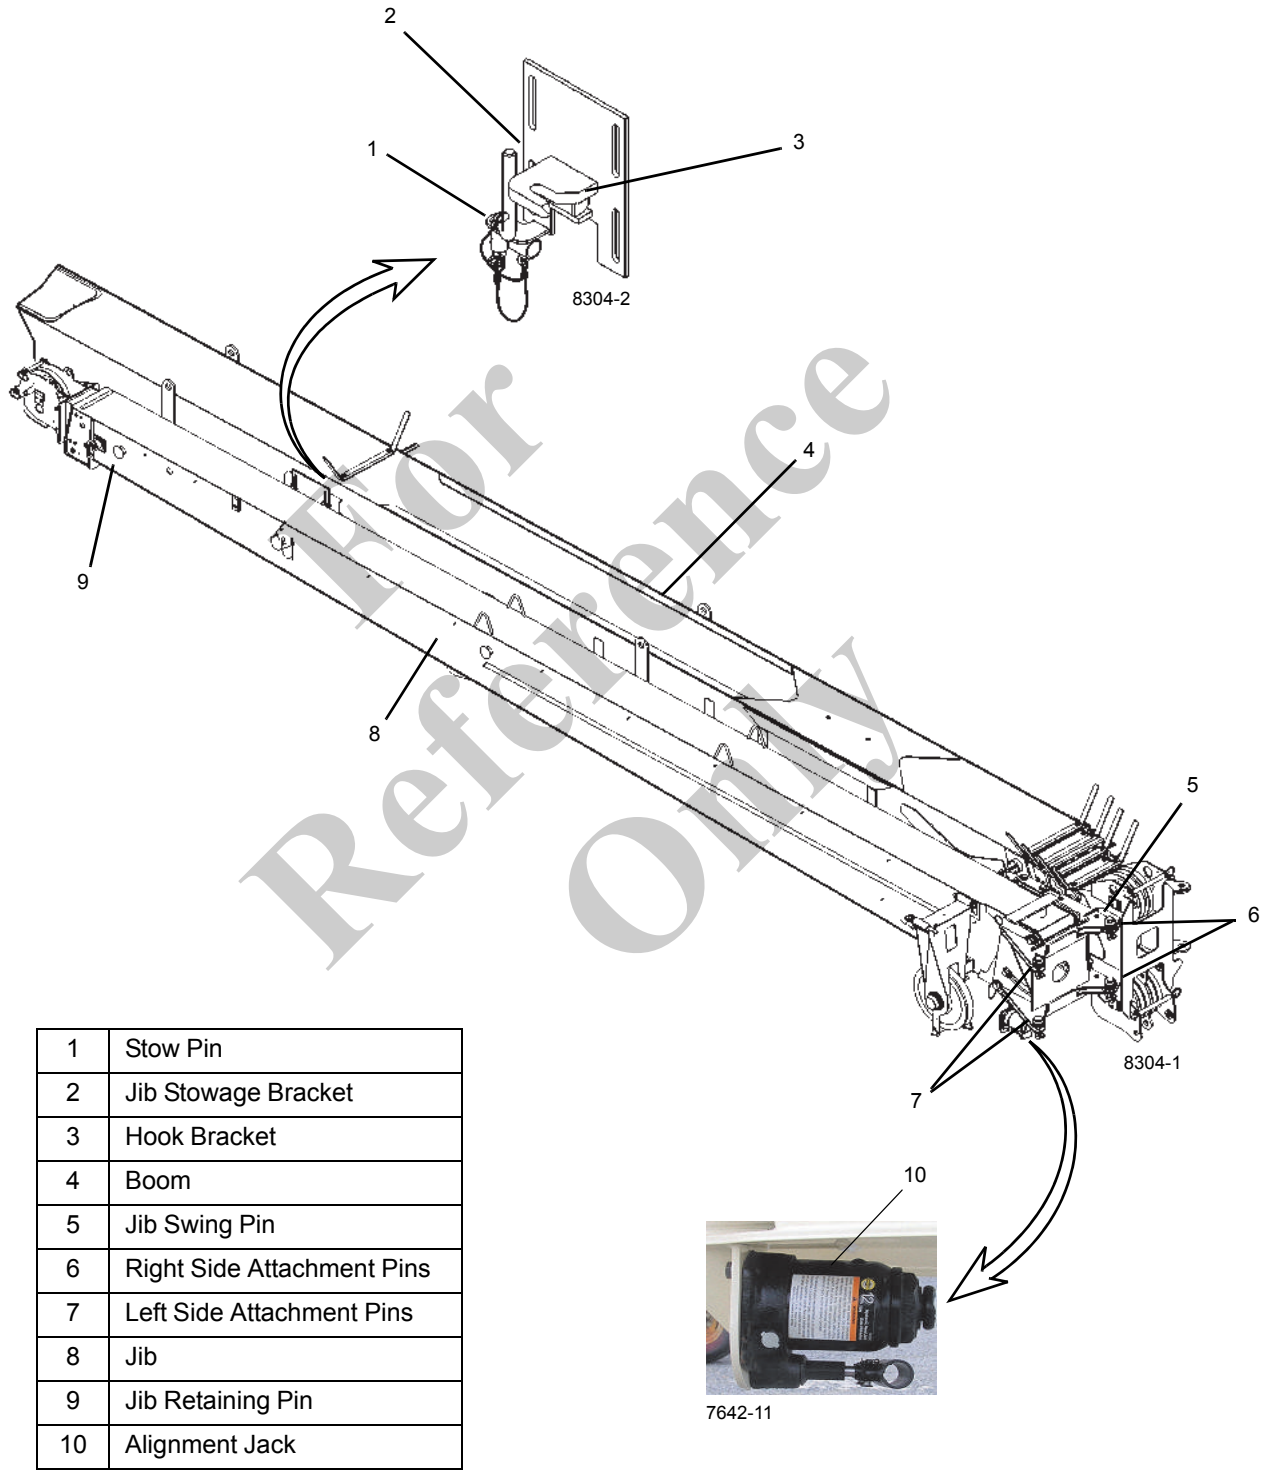
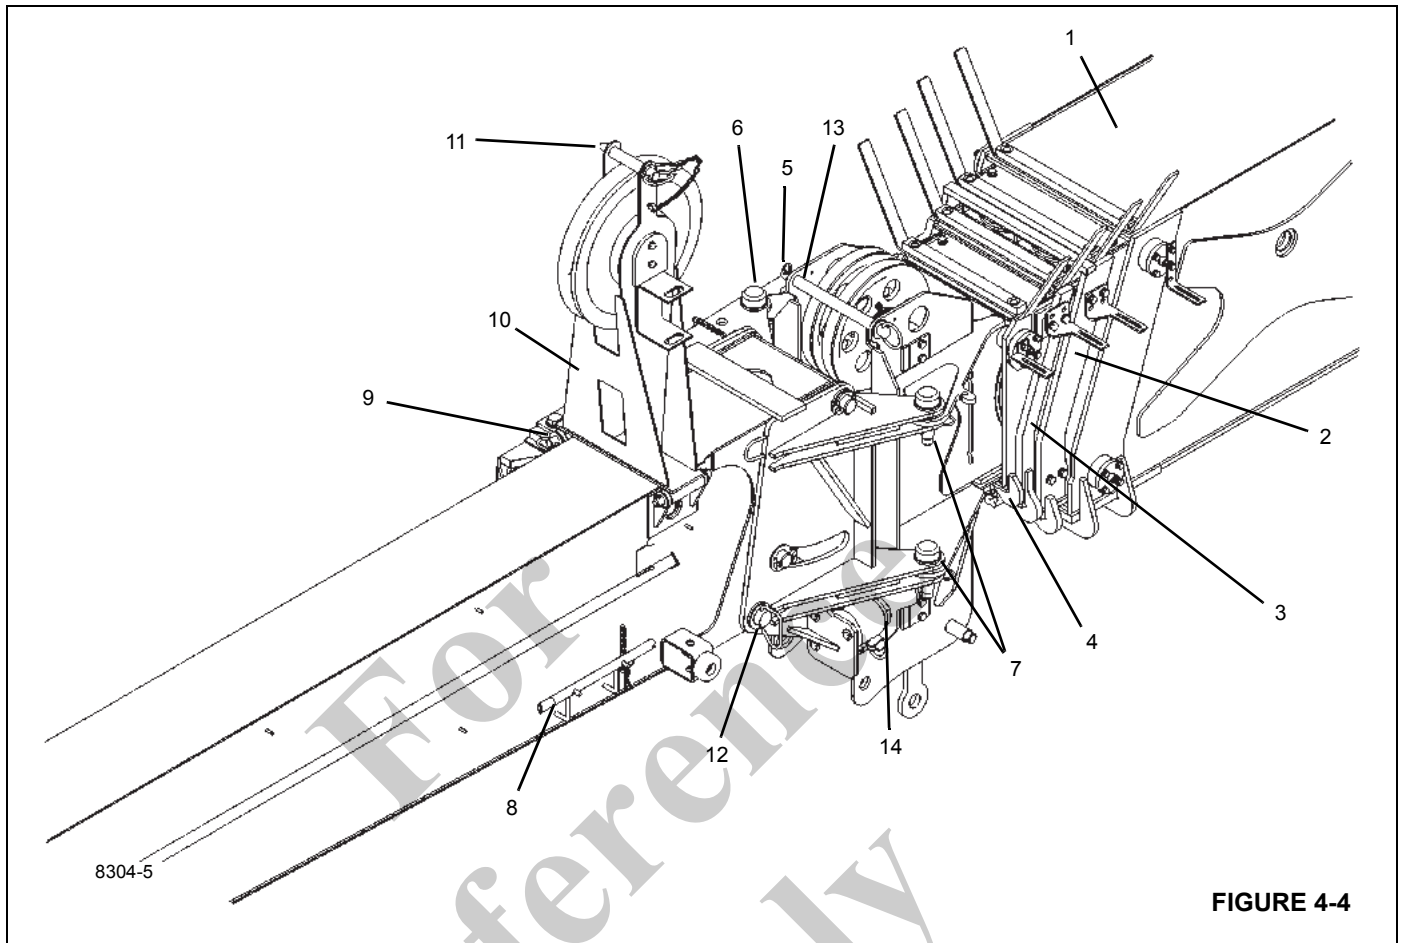

FIGURE 4-3
FIGURE 4-4
6. Ensure jib is stowed correctly (Figure 4-3):
- a. Removal of right side attachment pins (6), without proper installation of stow pin (1) and Jib swing pin (5), may allow jib to fall off.
- b. Extending boom with the jib stowed and failure to remove right side attachment pins (6), will damage crane upon extension.
7. Only swing jib into working or stowed position when boom is horizontal, stow pins (1, Figure 4-3) and jib swing pin (5) are removed and right side attachment pins (6) are in place. The jib could swing uncontrollably if boom is not horizontal.
13. Do not extend/retract boom unless boom is horizontal when stow pin (1, Figure 4-3) and jib swing pin (5) are removed during stowing or unstowing procedures.
1. Jib retaining pin (9, Figure 4-3) must always be installed when operating.
3. Extendable section may slide out of 1st jib when jib retaining pin (9, Figure 4-3) is removed. Keep personnel clear of area.
2. Using lift function, lower boom so that attachment pins (6 and 7, Figure 4-3) are easily accessible from the ground.
4. Install right side attachment pins (6, Figure 4-3) in upper and lower jib lugs, secure with retainer spring clips. These pins are used as a pivot point to swing jib into the deployed position.
5. Locate the stowed position of attachment pins (7, Figure 4-3). If in jib attachment holes or boom sheave case jib holes, remove pins from storage location.
6. Remove jib swing pin (5, Figure 4-3) from top ear of jib.
7. Remove stow pin (1, Figure 4-3) and stow in hook bracket (3), secure with spring clip.
10. Using telescope function, slowly extend boom approximately 30 cm (12 in). This procedure will pull the jib out of the hook bracket (3, Figure 4-3).
12. Install upper left attachment pin (7, Figure 4-3) and spring clip. A slight mallet strike may be necessary to install pins. Always use proper eye protection during this step.
13. Use the alignment jack (10, Figure 4-3) to align lower left side attachment pin (7, Figure 4-3).
- a. Remove the jack handle (8, Figure 4-4) from the boom stowage bracket and check that the jack release valve is closed.
- b. Extend the alignment jack (10, Figure 4-3) so that the lower left pin holes (7, Figure 4-3) are aligned.
- c. Install the lower left side attachment pin (7, Figure 4-3) and spring clip.
- d. Open the jack release valve and retract the jack (10, Figure 4-3).
18. Install jib swing pin (5, Figure 4-3) and spring clip into jib lugs.
19. For manually extendable jib, pull jib retaining pin (9, Figure 4-3), and extend second section out by pulling on sheave case. The second section jib, as it extends, will hit a mechanical stop that allows for jib retaining pin (9, Figure 4-3) installation. Install pin (9) and spring clip.
- Side stow bracket completely engaged into stow hook with stow pin (1, Figure 4-3) properly in place.
- Both pins (6, Figure 4-3) in upper and lower jib holes properly in place through mating holes on boom tip.
1. Using lift function, lower boom so that right side attachment pins (6 and 7, Figure 4-3) are easily accessible from the ground.
2. Two section jib - For manually extendable jibs, pull jib retaining pin (9, Figure 4-3) and fully retract extendable 2nd section into the 1st. Retraction of 2nd section may be facilitated by attaching loadline wedge socket to jib nose. Slowly activate the hoist up function until the 2nd section is fully retracted.
3. Two section jib - Reinstall jib retaining pin (9, Figure 4-3) through the 1st and 2nd section jib assembly and install spring clip.
7. Remove spring clips from left side attachment pins (7, Figure 4-3 and Figure 4-4) on both upper and lower jib lugs.
8. Remove jib swing pin (5, Figure 4-3) from the boom nose.
9. Remove left side attachment pins (7, Figure 4-3 and Figure 4-4) from upper and lower jib lugs. Do not remove right side attachment pins (6) at this time. The right side attachment pins (6) will be used as a pivot point to swing jib into stowed position. A slight hammer strike may be necessary to remove pins.
12. Using tag line attached to jib sheave case, slowly swing jib into stowed position (parallel with Tele 1 boom), the right side attachment pins (6, Figure 4-3) are the jib pivot points during this operation.